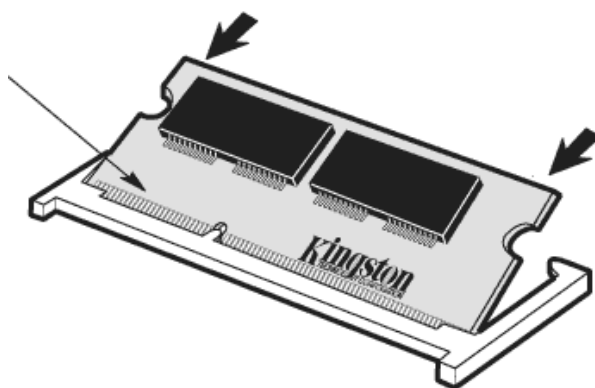

Figure 2-2 Beginning SODIMM Installation
- A) Orient the SODIMM so that its edge contacts on the "bottom" line up to the contacts on the connector and the connector key lines up with the SODIMM outline. Keep the "top" end of the SODIMM raised so the SODIMM makes about a 30 degree angle with the SuperFalcon board. See Figure 2-2.